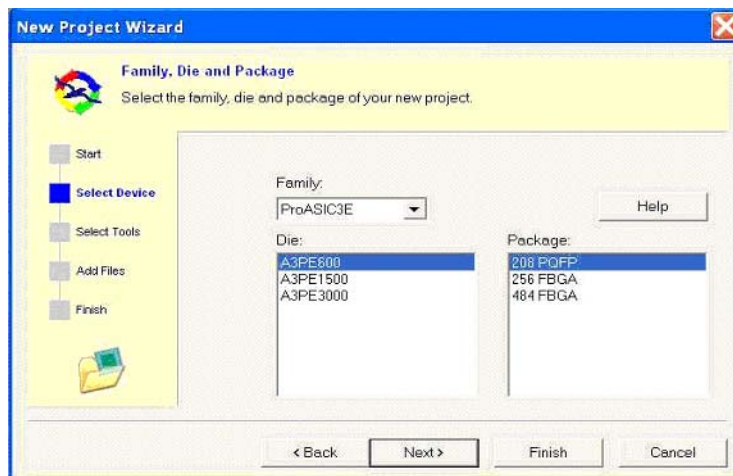
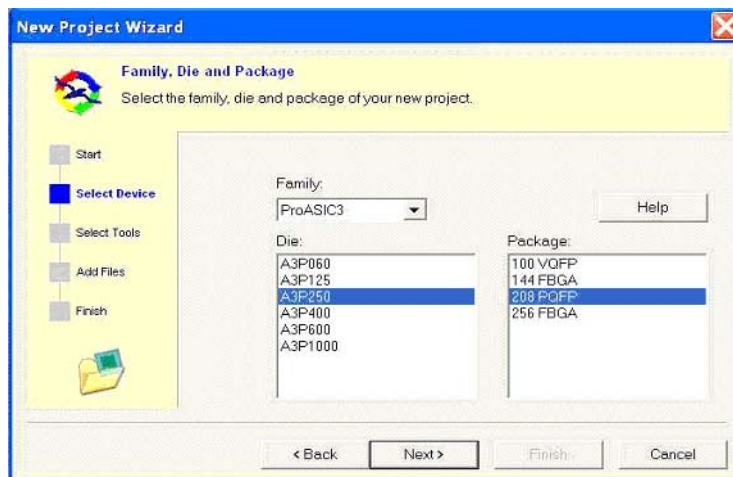

Figure 7-2 • Select A3PE600-PQ208
Figure 7-3 • Select A3P250-PQ208
6. Select your project **Family, Die, and Package**. For this tutorial, you can select **ProASIC3E**, the **A3PE600** die, and **208 PQFP** for the package (Figure 7-2), or select **ProASIC3**, the **A3P250** die, and **208 PQFP** for the package (Figure 7-3).